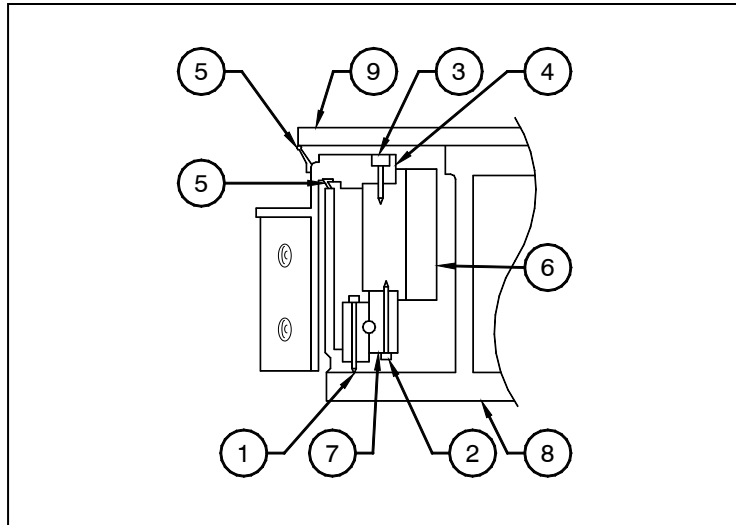

Figure 4.8a
- .3 Remove the socket head capscrews (3), and remove the gear cage attachment (4) from the main gear. Refer to Figure 4.8a.
- .4 Remove the lip seals and band clamps (5), if worn, cut or deteriorated.
- .5 Using a socket head wrench, remove the capscrews (1).
- .6 Remove the main gear (6). Set it upside down on a clean, level working area.